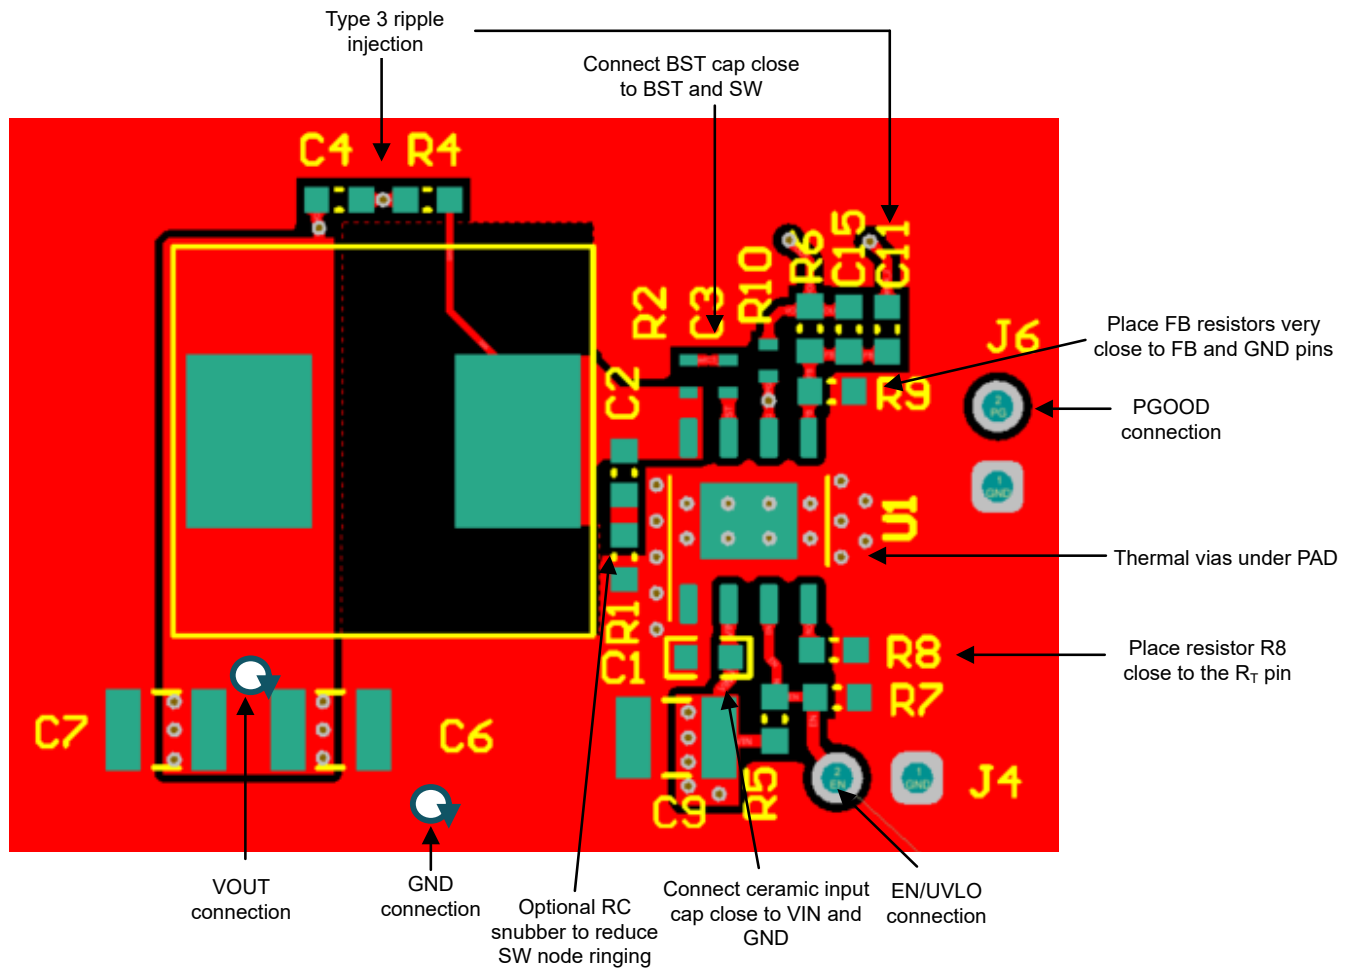

Figure 8-28. LM5168E PCB Layout Example for DDA package
- Minimize the loop area formed by the input capacitor connections to the VIN and GND pins. The input capacitor is part of the buck converter high di/dt current loop. The high di/dt current, together with excessive parasitic inductance between the IC and the input capacitor, can result in excessive voltage ringing on the SW node of the IC. The placement of the input capacitor on the board is critical for minimizing the parasitic inductance in the high di/dt loop and accordingly minimizing the SW node ringing at each switching. For designs targeting the maximum operating voltage of the regulator, make sure the ringing on the SW node does not exceed the absolute maximum rating of the device. The SW node voltage ringing is a function of how well the input capacitor is positioned with respect to the IC. Refer to the PCB layout example in Figure 8-28 for proper placement of the input capacitors.
Figure 8-28 shows an example layout using DDA package for the PCB top layer with essential components placed on the top side.